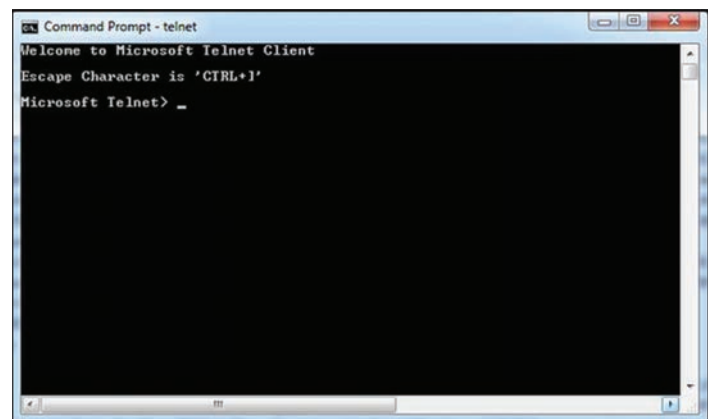

Figure 74: Telnet client
1. At a Windows command prompt, enter telnet to run the Telnet client (see Figure 74 below).